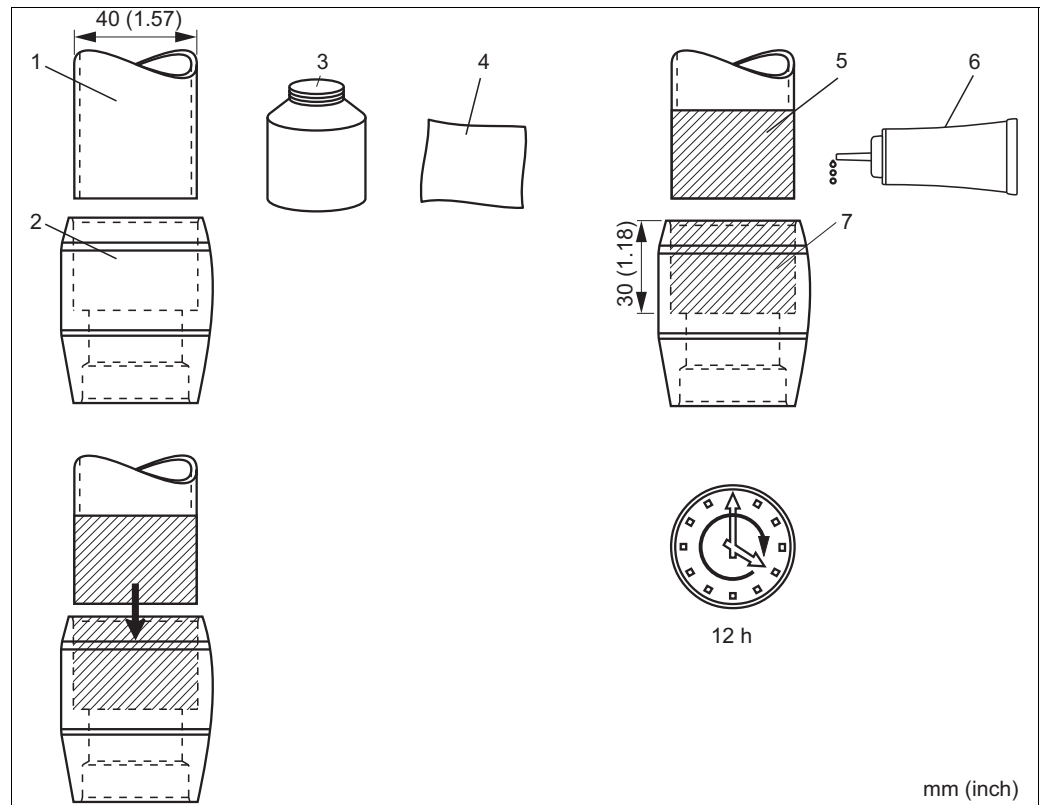

Fig. 8: Assembly of component parts
1. Clean the coupling (→ Fig. 8, pos. 2) and the pipe end (pos. 1) or, for the 45° version, the end of the 90 mm pipe with a cloth (pos. 4) and cleaner until they are free from grease and dirt. Then dry them completely.
2. Apply PVC adhesive (pos. 6) to the inside of the coupling (pos. 7).
3. Apply a thick layer of PVC adhesive to the outside of the pipe end (pos. 5) or, for the 45° version, the end of the 90 mm pipe.